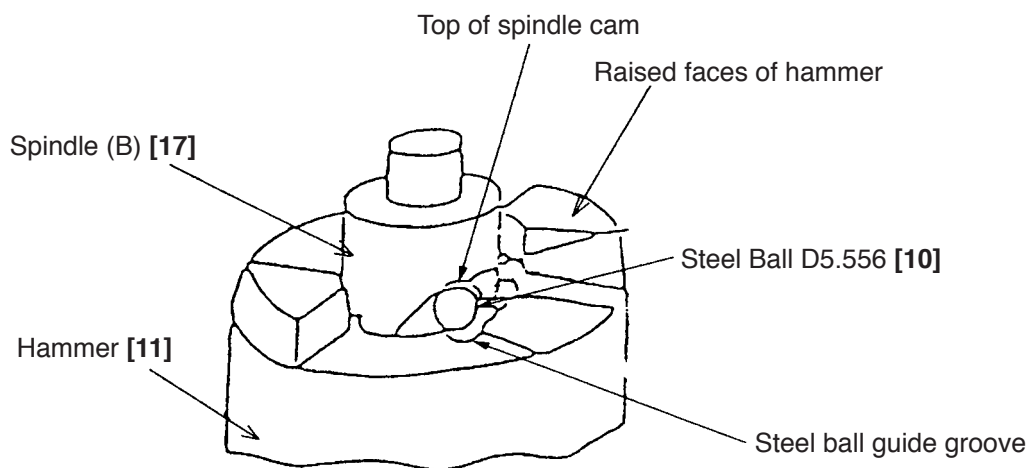
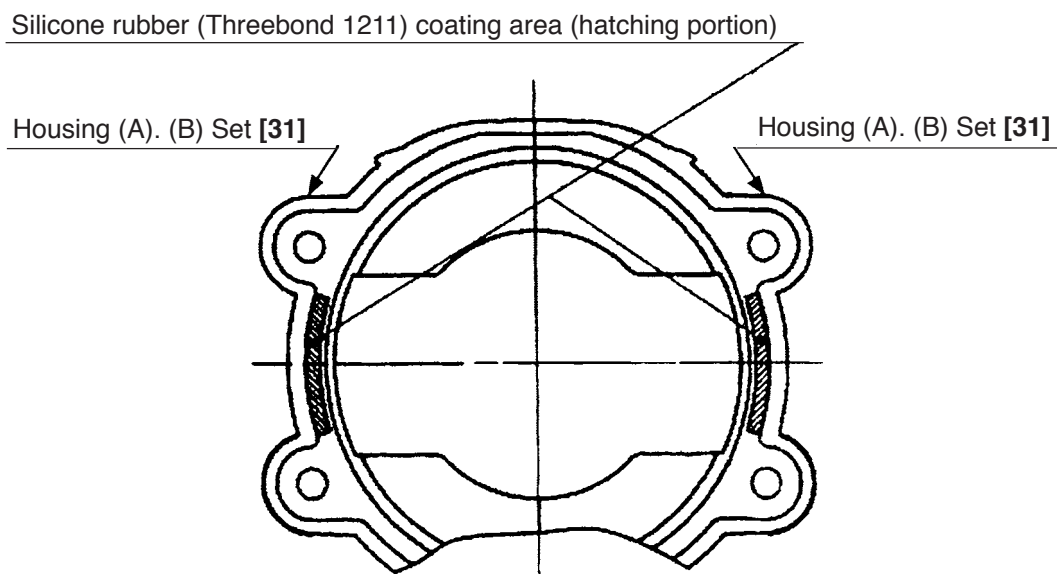

Fig. 9
Fig. 11
(3) Reassembly of the mechanical parts
- (a) Put Washer (S) [15] onto the shaft of Spindle (B) [17] and mount the Hammer [11] containing the twenty-eight Steel Balls D3 [12], Washer (J) [13] and the Hammer Spring [14] to Spindle (B) [17].
- (b) Align the top of the cam groove on Spindle (B) [17] with the steel ball guide groove on the Hammer [11] as illustrated in Fig. 9. Press down either of the raised faces of the Hammer [11] with a hand press to compress the Hammer Spring [14] until the end surface of the hammer contacts the flange of Spindle (B) [17].
- (d) Mount the hammer assembly onto the J-297 base for washer (S). With a hand press, push down the top of Spindle (B) [17] to compress the Hammer Spring [14]. On this condition, mount the Stopper [16] onto the spindle shaft and then release the hand press.
- (e) Mount the Ring Gear [20], Washer (E) [21], Ball Bearing 6901VVCMP2L [22], Inner Cover [23], Damper [24] and the Retaining Ring [25] to the above reassembly. Furthermore, mount the other mechanical parts and Anvil (B) [9], then the Hammer Case [7].
(4) Mounting Gear Box (B) Ass'y [1] to the housing
Coat Housing (A).(B) Set [31] with Silicone Rubber (THREEBOND 1211) as shown in Fig. 11. Mount Gear Box (B) Ass'y [1] so that the pinion press-fitted in the Motor [26] properly meshes with the Idle Gear Set [18]. Check that Anvil (B) [9] turns smoothly. If not, the gear meshes improperly. Check the meshing condition. Tighten the four Tapping Screws (W/Sp. Washer) D4 x 40 [6]. Wipe the silicon rubber protruded from the housing with a cloth.